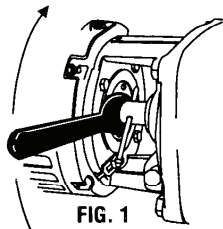
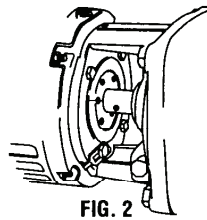

FIG. 1
FIG. 2
4. Rotate Adjusting Screw in a clockwise direction (Fig. 1). A drag will be felt as the impeller comes into contact with the raceway. At this point, make a mark on the pump frame and adjusting screw, across one of the spanner wrench holes (Fig. 2).